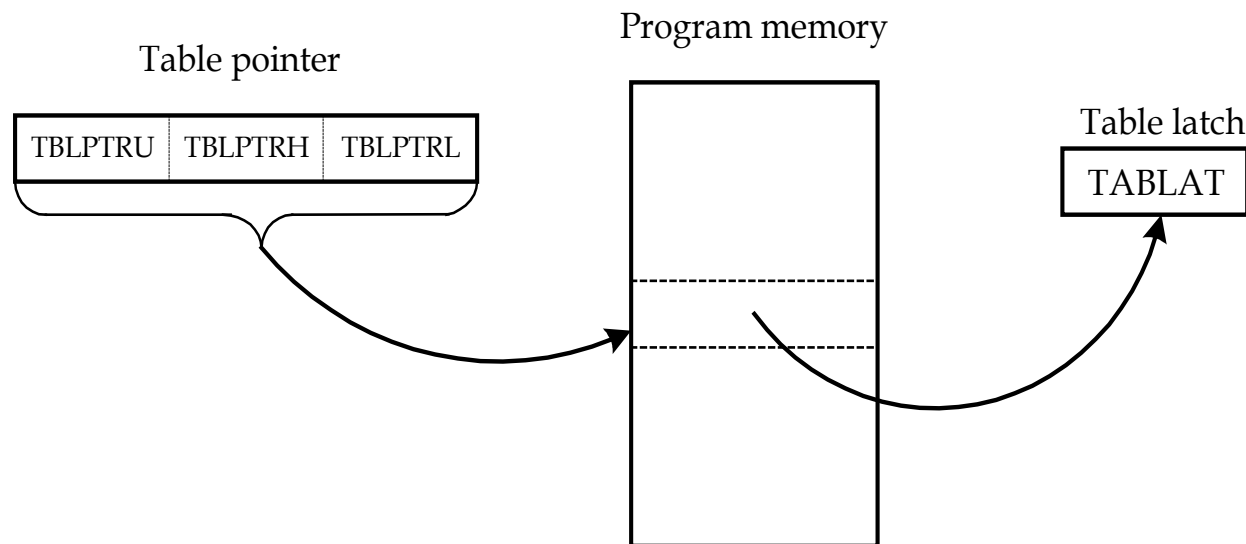

Figure 2.14 Table read operation (Redraw with permission of Microchip)
- The operations of reading data from and writing data into program memory are shown in Figure 2.14 and 2.15.